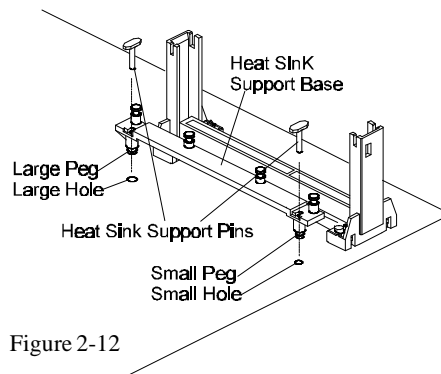

Figure 2-12
2. There are two plastic pegs on the bottom of Heat Sink Support Base (HSSBASE) bar. Mount the two black plastic pegs onto the mainboard. Notice that one hole and the bar of one peg are larger than the other hole and peg. (Refer to Figure 2-12)
3. Insert the Heat Sink Pins (HSSPIN) through the HSSBASE to secure it to the mainboard. (Refer to Figure 2-12)